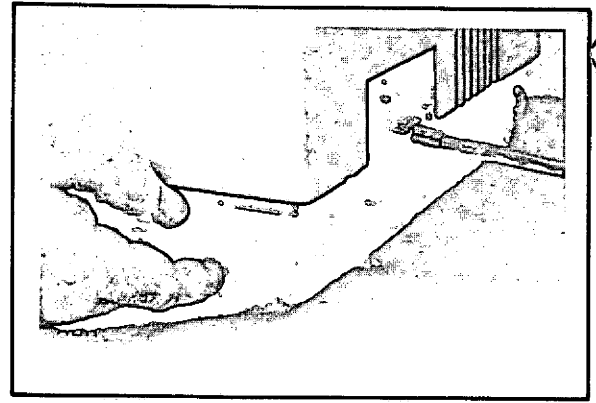

Fig. 2-1. Location of the Power On/Off Switch
- a. The power on/off switch is located on the right side panel, as shown in figure 2-1.